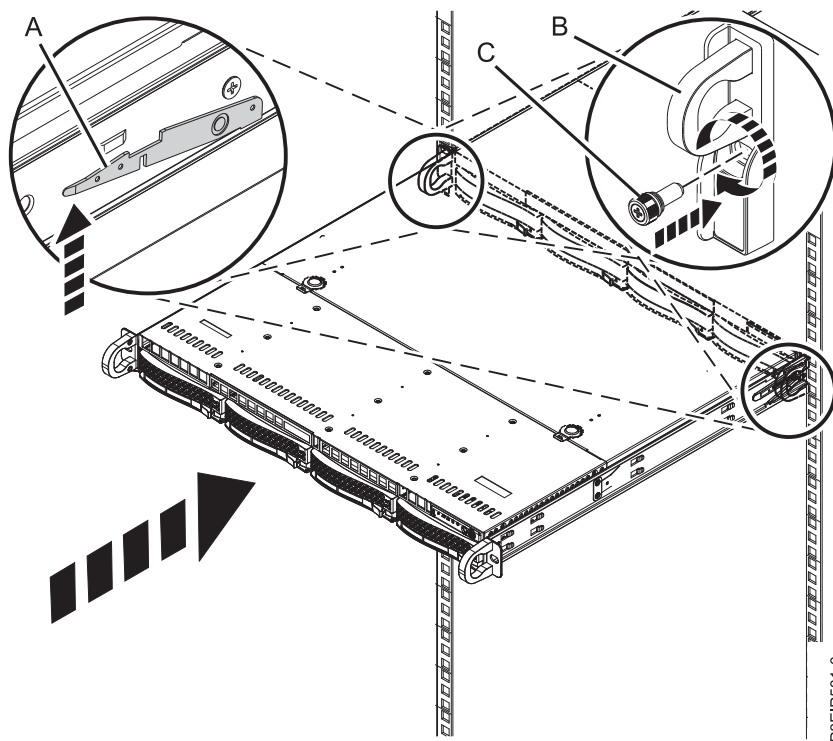

Figure 70. Placing the system into the operating position
5. Release the rail safety latches (A), as shown in Figure 70, then push the system fully into the rack by using the handles (B). The safety latches work in opposite directions; the latch on one side moves up while the latch on the other side moves down.